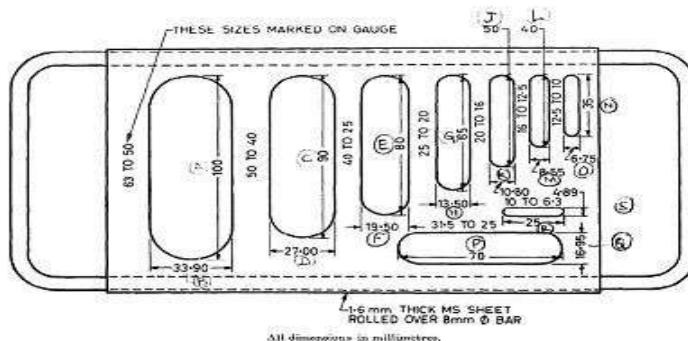

Fig4. THICKNESS GAUGE
- 2) Metal Gauge – The metal gauge shall be of the pattern as shown in Fig 4
- 3) Then each fraction shall be gauged in turn for thickness on a metal gauge of the pattern shown in Fig 4 or in bulk on sieves having elongated slots. The width of the slot used in the gauge or sieve shall be of the dimensions specified in column 3 of Table 6 for the appropriate size of material.